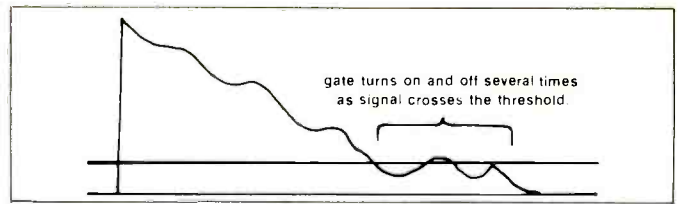

Figure 4
- Chattering. This occurs because not all signals decay in a nice, uniform way. For example, the amplitude of a guitar string changes radically towards the end of its decay, which means that it may cross over the threshold more than once before it fades out (see *Figure 4*). This rapid opening and closing of the gate causes “chattering” problems. Some gates minimize chattering by adding a bit of decay time, so that the gate doesn't close instantly but instead closes over a period of several hundred milliseconds. This reduces, but does not eliminate, the problem.